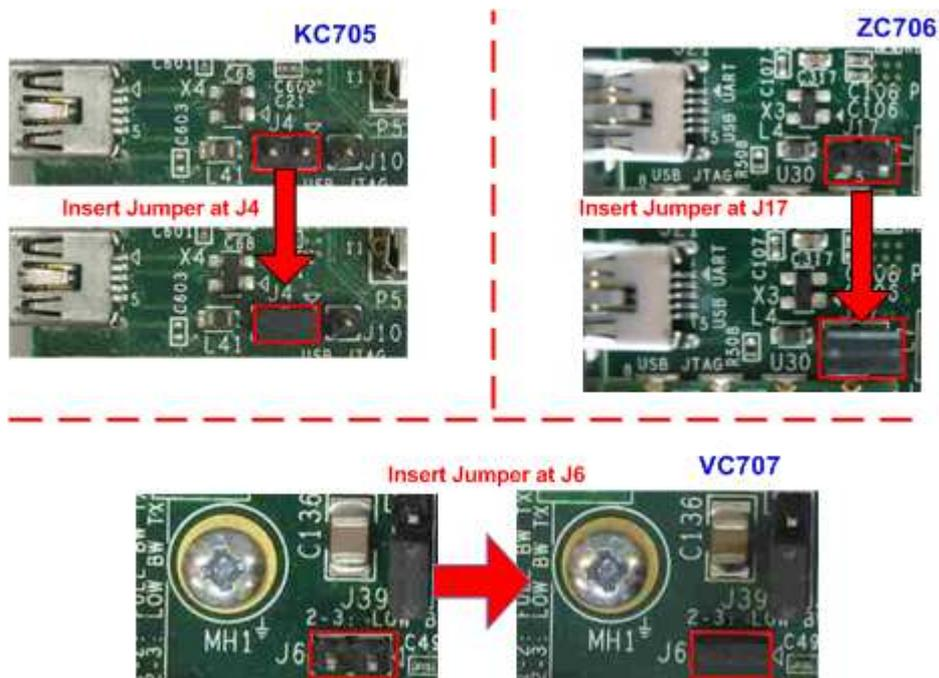

Figure 10 Insert jumper to enable SFP+
- Insert jumper to enable SFP+ (J4 for KC705, J17 for ZC706, or J6 for VC707), as shown in Figure 10.